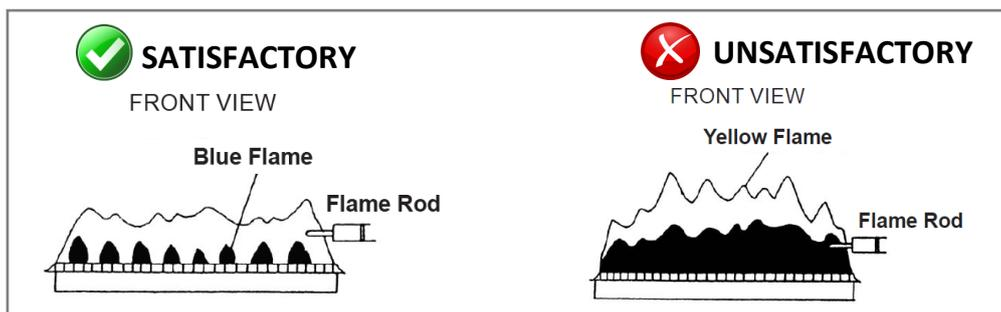

Figure 16. Satisfactory and Unsatisfactory Burner Flames
3. Check that the burner flames are operating normally. The flame can be seen through the circular window above the burner. When operating normally, the burner flame should burn evenly over the entire surface. The flame should be clear, blue and stable. A yellow flame is abnormal and maintenance is required (Figure 16).